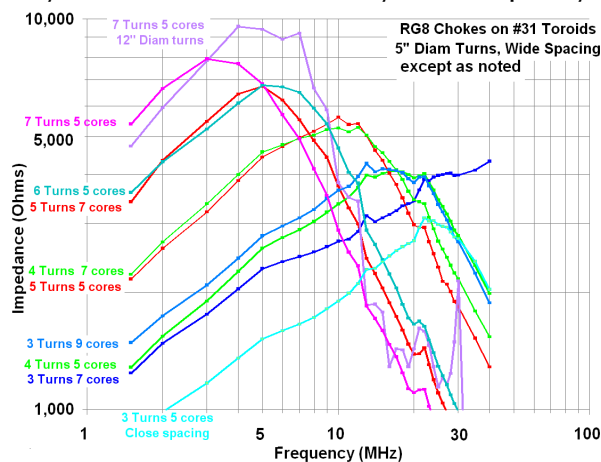
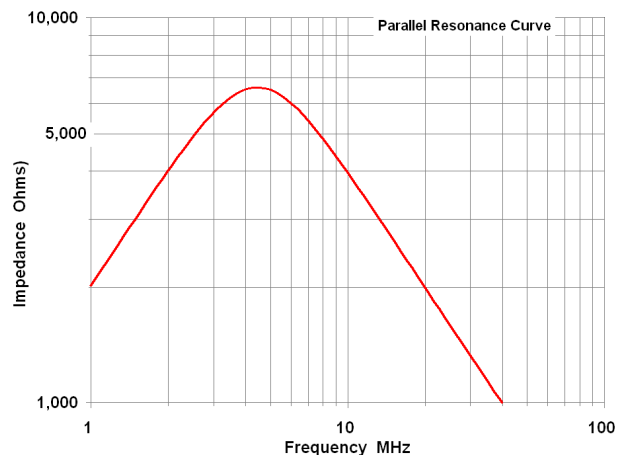

Fig 40 – Measured Impedance of RG8 Chokes wound on stacks of #31 2.4" toroids
Fig 41 – Impedance of a parallel resonant circuit of 320 uh, 4 pF, and 6,600 ohms
**More Measurements:** Fig 40 displays data obtained in this manner for RG8 chokes wound on stacks of #31 3.4" o.d. cores, in the style of Fig 37. Note that the resonant frequency falls both with more turns and with more cores in the stack. This is to be expected – in addition to the resistive impedance we are looking for, each core also adds inductance and capacitance, both of which lower the resonant frequency. Our goal is 5K ohms over a broad frequency range (at least three ham bands). Fig 40 shows very good options for 1.8-14 MHz, but makes it clear that it isn't easy to get more than about 3K at 30 MHz in a single choke, and it will be difficult to wind a single choke that covers 14-30 MHz (for use on a multiband antenna). Note that the "bubbles" around 20 MHz are measurement errors resulting from artifacts of the active attenuator in my HP 8657A, and not
**Curve Fitting to Find R, L, and C values:** Fig 41 is the impedance of a simple parallel resonant circuit consisting of a 320  $\mu\text{H}$  inductance, a 4 pF capacitance, and a 6,600 ohm resistance. Fig 41 is simply a plot (using Quattro Pro) of the equation for the impedance of a parallel resonant circuit consisting of those component values. The values were selected so that the curve closely approximates the 5 turn choke wound on 7 cores in the vicinity of resonance – the red curve in Fig 40. This circuit has a Q of 0.73 at resonance. Note that as we move away from resonance by more than about 2 octaves (a 4:1 frequency change), the calculated curve increasingly deviates from the measured data. This should come as no surprise, since the permeability and the permittivity of the ferrite material vary with frequency.
**Chokes and Modeling** A wire can easily be added to an NEC model for a dipole to analyze the contribution of common mode current on the coax shield to antenna performance. There is a very good discussion of this by L. B. Cebik, W4RNL, at <http://www.cebik.com/amod/amod100.html> Beginning with version 4 of W7EL's excellent EZNEC+, we can add a parallel RLC network to any of the wires in the model. The values of R, L, and C that we determined empirically (see Figs 41 and 43, and the associated discussion) can be added to the coax in this model! We might also add to the model a nearby feedline that we suspect might need an "egg insulator" choke, and study the result with and without the choke.